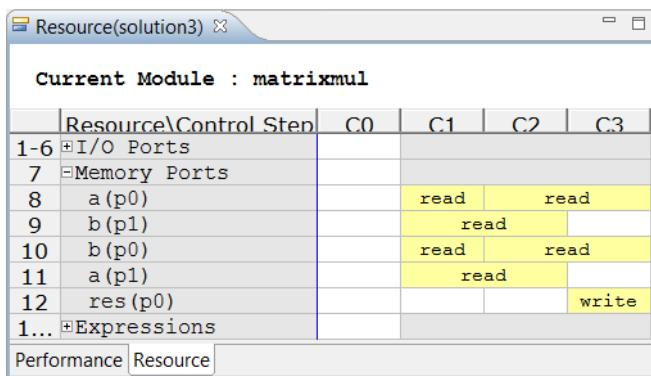

Figure 7-12: Matrixmul Pipeline Col Resource Sharing View
10. Expand the memories to see the view shown in Figure 7-12.
In Figure 7-12 the 2-cycle read operations in state C1 overlap with those starting in state C2 and so only a single cycle is visible: however, it is clear that this resource is used in multiple states.